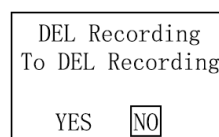

Fig. 15 Delete Recording interface
2) Delete Recording: After entering the main menu (with the second-level password), select and enter "3. Delete Recording" by "▲" or "▼", as shown in Fig. 15. Select Yes with "▲" or "▼" and press OK, and delete the stored recording after entering the correct second-level password. You may exit the settings by selecting No and pressing OK or Exit, and return to the previous main menu interface.